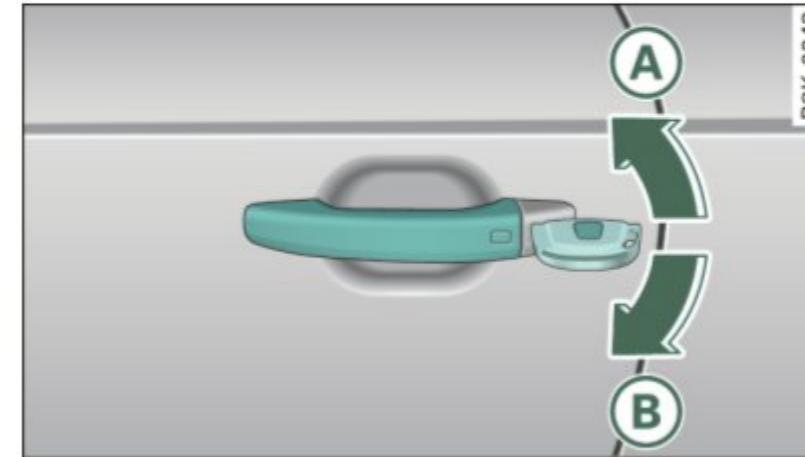

Fig. 49 Key turns for opening and closing
- Turn the key to position ⇒ fig. 49 **A** until all the windows have reached the desired position and the panorama roof is tilted.